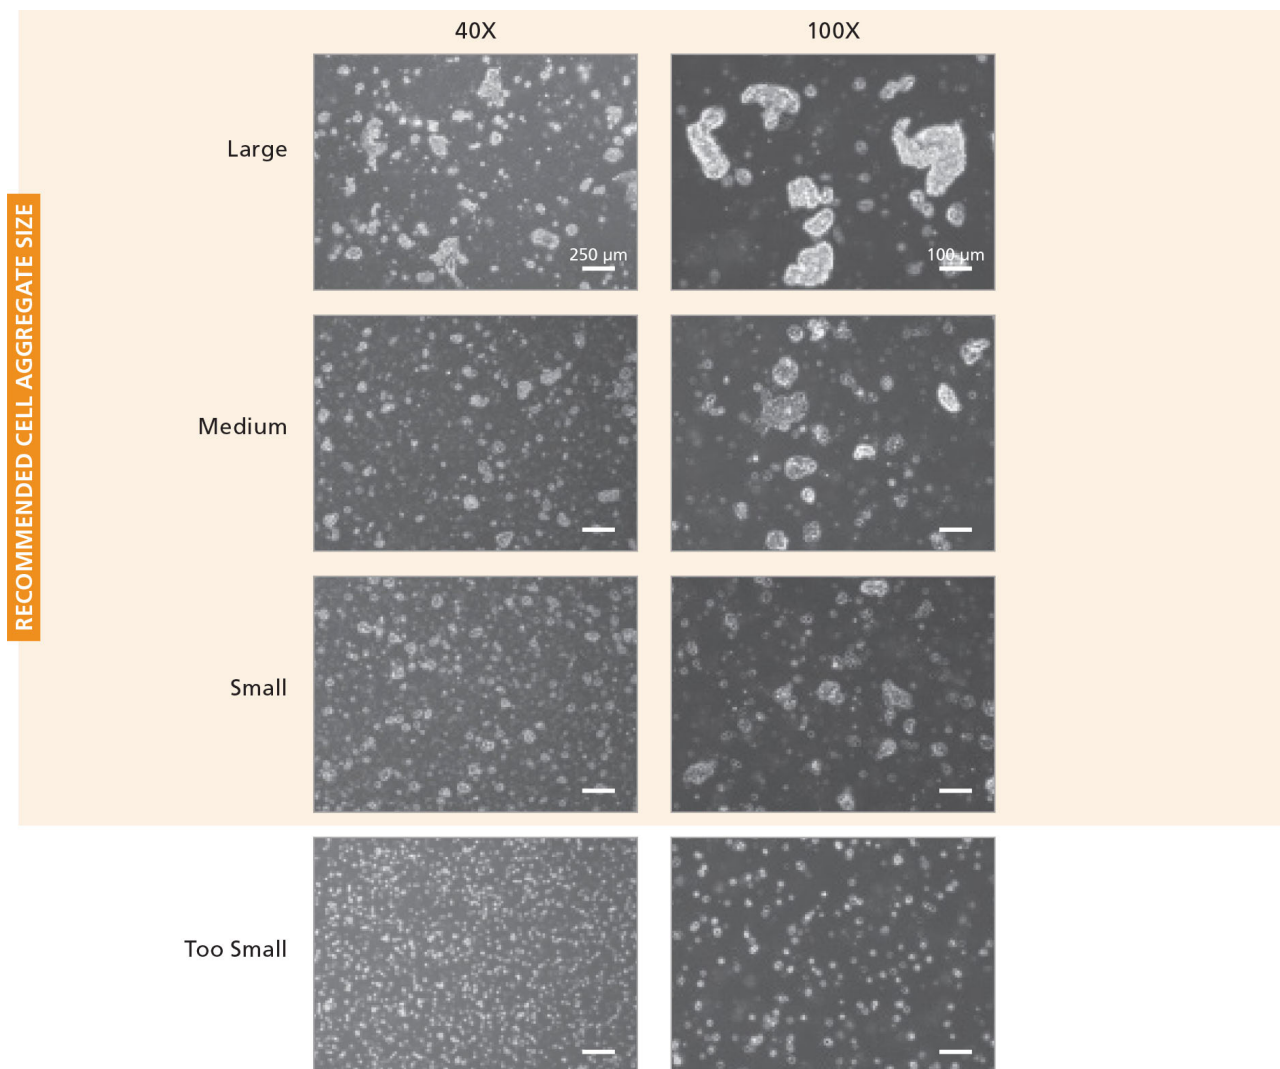

Figure 5. Acceptable Size Range for Cell Aggregates at the Time of Plating
*Number can be adjusted to obtain desired cell aggregate size (section 6.3). Refer to Figure 5 for examples of appropriate cell aggregate sizes, and adjust procedure as necessary to achieve desired results.
*For representative images see Figure 5.
At the time of plating, the desired cell aggregate size can be obtained by adjusting the number of times the cell aggregate suspension is pipetted up and down (Table 3). Refer to Figure 5 for a recommended range of cell aggregate sizes. Do not generate single cells.